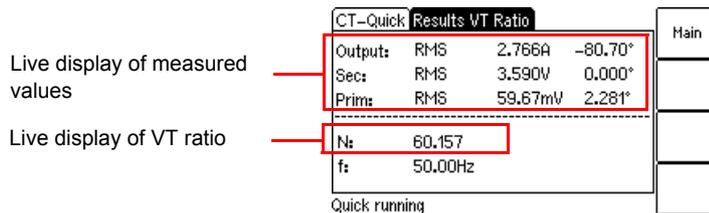

Figure 9-11 **Results** test card for VT ratio measurement
- Start the measurement by pressing the **I/O** key on the *CT Analyzer* or clicking the **ON** button on the **VT Ratio** tab of the *CTA QuickTest* software. The measured values are displayed and permanently updated as long as the measurement is active. Refer to Figure 9-11.
4. Start the measurement by pressing the **I/O** key on the *CT Analyzer* or clicking the **ON** button on the **Resistance** tab of the *CTA QuickTest* software. The measured values are displayed and permanently updated as long as the measurement is active. Refer to Figure 9-11.